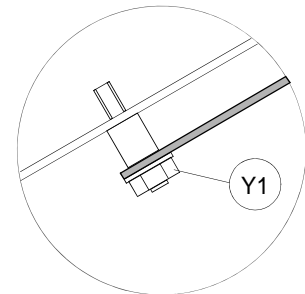

Fig. 48
- 4) take the electronic circuit board off by unscrewing the (Y1) nuts off (fig. 48).